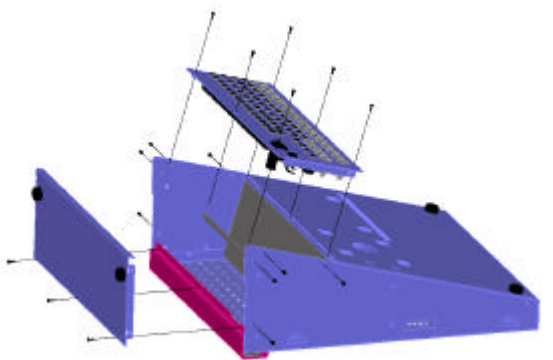

fig. 6
Attention: If you wish to rotate the connection panel in addition to the rack bracket mounting (fig. 6), perform steps 3 – 8. If not, proceed directly to step 9.
6. The cover sheet must be mounted with the angular side up, like shown in fig. 6. The connection panel is now mounted in such a way that the mains socket is left upwards on the unit (fig. 6).